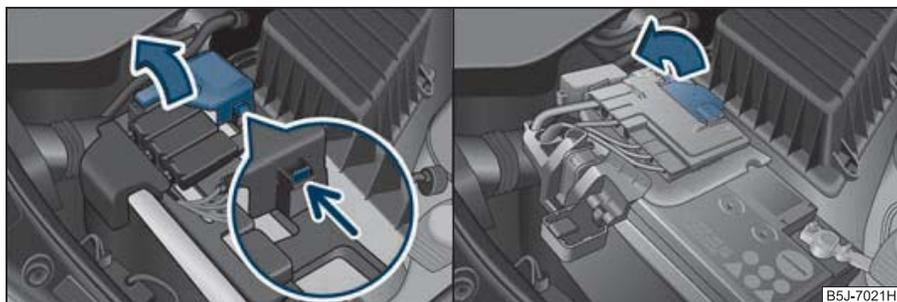

Fig. 145 The battery: Pull up the cover (automatic gearbox)/(manual gearbox)
- Unlock the interlock on the positive terminal side of the battery ⇒ fig. 145 - left.
- Pull up the cover in direction of arrow ⇒ fig. 145 - left (automatic gearbox) or ⇒ fig. 145 - right (manual gearbox).